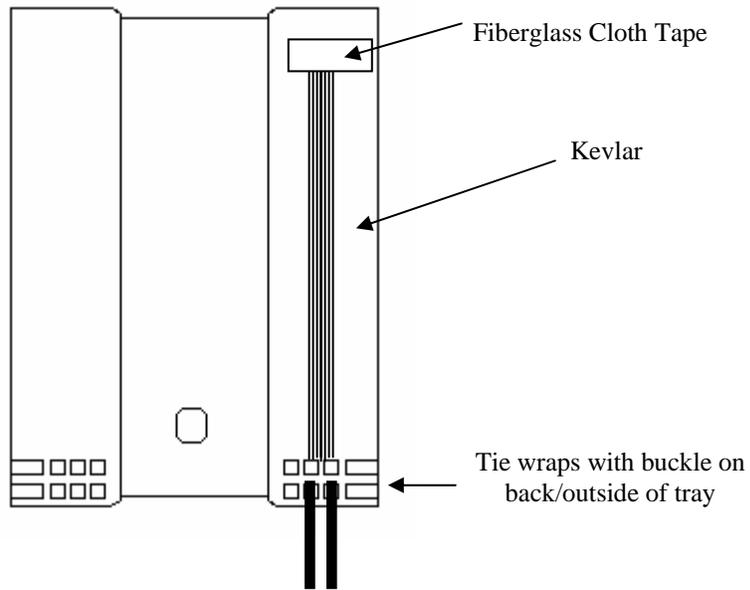

Figure 13 – Kevlar Positioning on Back of Splice Tray
Step 15 – Insert twisted Kevlar under tape used for set “A” group 1 fibers (See Figure 13 below).